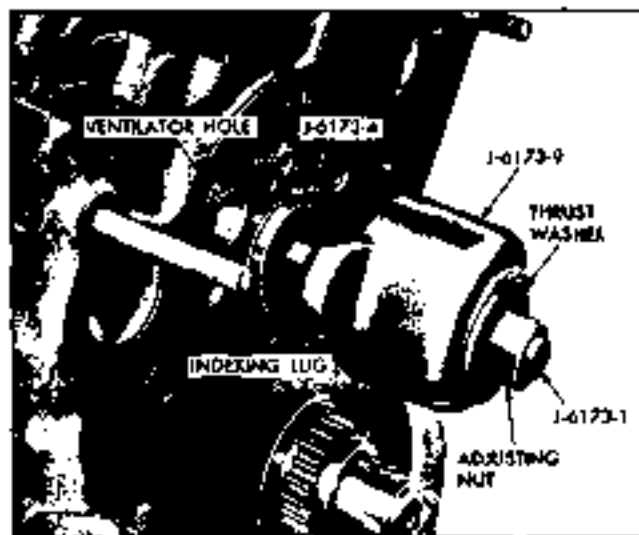

Fig. 6-98 Positioning Index Collar
1. Insert remover adapter J 6173-4 into front bearing to act as a support for shaft J 6173-1 (Fig. 6-98).
3. Place indexing collar J 6173-6 on threaded end of shaft with open side toward unthreaded end and start thrust washer and nut on shaft (Fig. 6-98).
4. Insert shaft and indexing collar through remover and replacer adapters and position lug on indexing collar in ventilator hole in front of block (Fig. 6-98). This indexes shaft so that it cannot rotate.
6. Insert shaft with indexing collar, thrust washer, and nut through remover, pilot and replacer adapters. Index lug on collar with ventilation hole in front of block (Fig. 6-98).